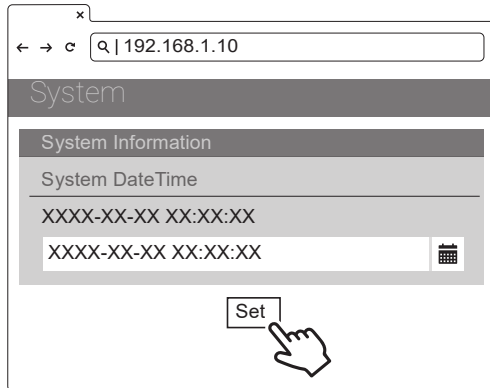

Figure 43. Set Date/Time
5) Select SET and wait until the seeing completion window appears. See Figure 43.